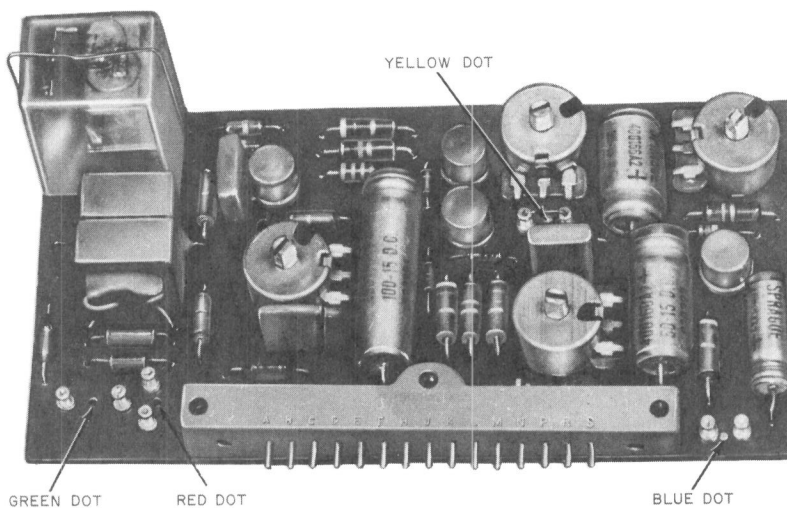

Fig. 8—KS-19245, List 5 Amplifier
- (d) The KS-19245, List 5 Amplifier (Fig. 8) is a printed circuit wiring board. It contains the voice-operated circuit and the calling party control circuit.